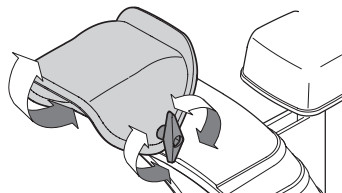

Figure 43
1. Loosen wing knob found on left side of the upper chute assembly (Figure 43).